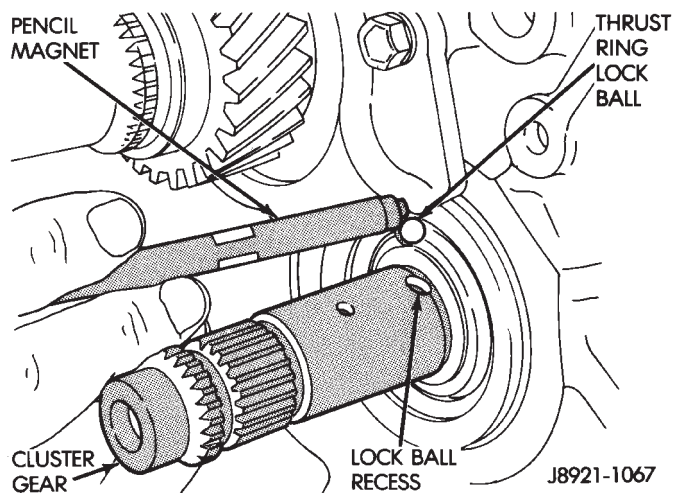

Fig. 60 Remove Fifth Gear Thrust Ring Lock Ball
(12) Remove fifth gear thrust ring lock ball from countershaft (Fig. 60).